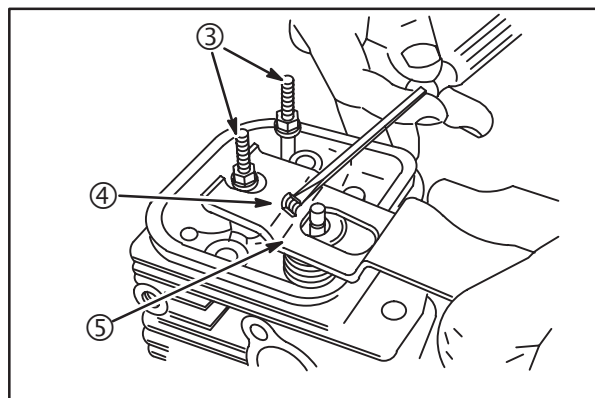

Fig. 19
4. Temporarily install rocker studs (3) in cylinder head.
5. Compress valve spring and retainer with Valve Spring Compressor #19347 (5). Install the valve retainer locks (4), Fig. 19.